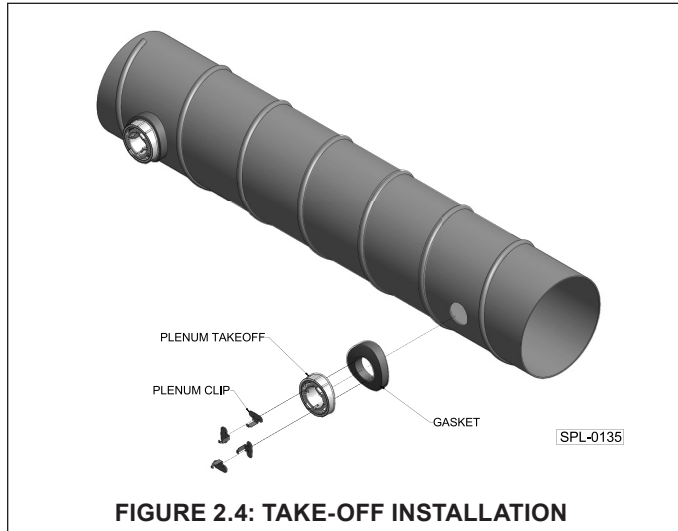

FIGURE 2.4: TAKE-OFF INSTALLATION
Seat take-off in hole so the curvature matches that of the duct (see Figure 2.4 - duct shown without insulation and jacket). Insert (1) plenum clip (green) into a slot opening, then slide down. Apply enough pressure to take-off so clip grabs inside of duct. Repeat the procedure with another clip opposite the first (180°). Using SpacePak pliers secure both clips so they "click" flush with interior of duct. Complete by inserting (2) more plenum clips in remaining slots and install as above.